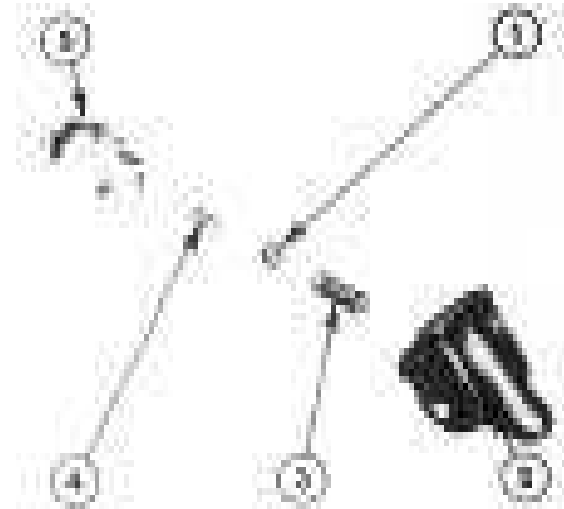

Figure 8
3. Use hacksaw to partially cut the lever retaining snap rings, Figure 8 then use a chisel to finally break the rings. During this operation, ensure the retaining rings are not dangerously ejected from the grooves on the levers.
1. Re-assembly and installation of the safety start switch follows the removal procedure in reverse. Ensure the actuator housing is assembled with the spring and ball in the correct position, Figure 8, and the actuating dowel is positioned in the drilling in the high/ low shift rail.